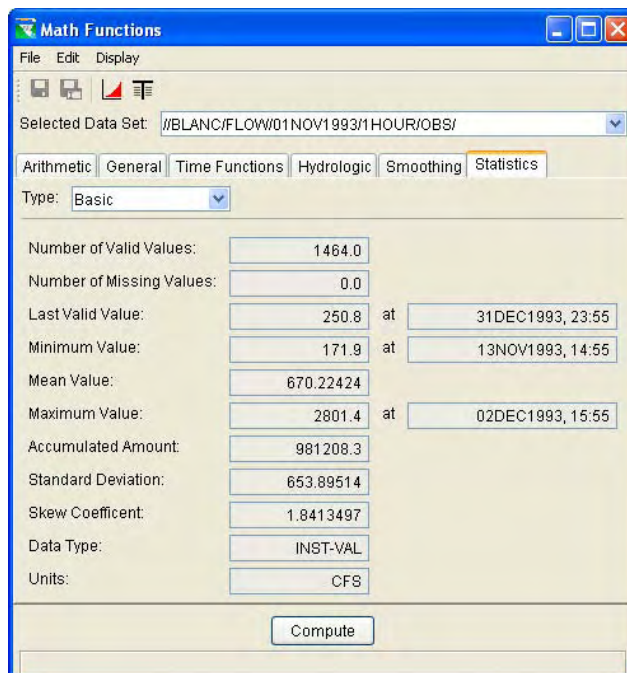

Figure E.12 HEC-DSSVue Math Functions, Statistics Tab
3. As appropriate, select one of the six tabs (**Arithmetic**, **General**, **Time Conversion**, **Hydrologic**, **Smoothing**, and **Statistics**). You will most likely find that the information available from the **Statistics** tab is very useful when analyzing data and results. An example of the Statistics screen is shown in Figure E.12.